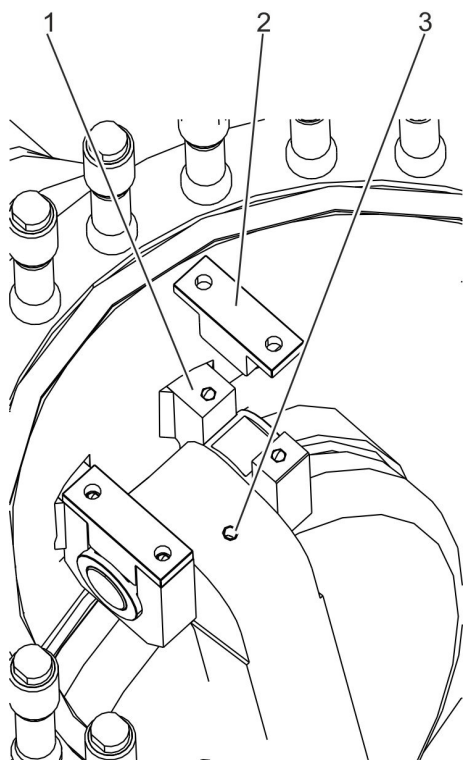

Fig. 35: Attaching the brackets
- 14.** Remove the ring bolt from the bore (Fig. 35/3) in the disc lever.
- 15.** Fit brackets (Fig. 35/2) on the retaining elements (Fig. 35/1).